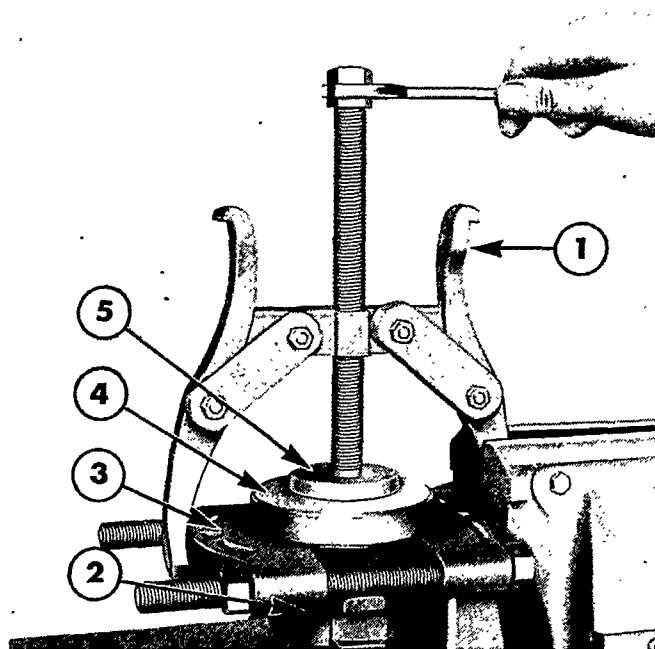

Figure 19
4. Examine the clutch release hub and bearing for excessive wear or damage. If necessary, remove the bearing from the hub with Tool Nos. 951, 630 S/10 and either a press or Tool No. 1002, see Figure 19. Press a new bearing onto the hub ensuring the thrust face of the bearing faces away from the shoulder on the hub.